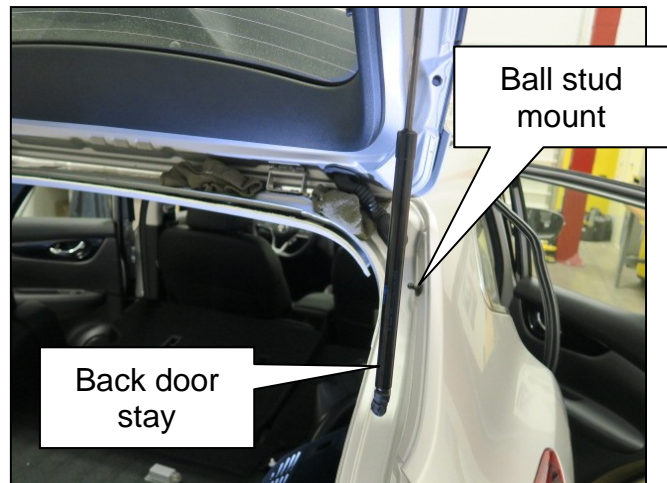

Figure 18
- Allow the back door stay to hang freely as shown in Figure 18.